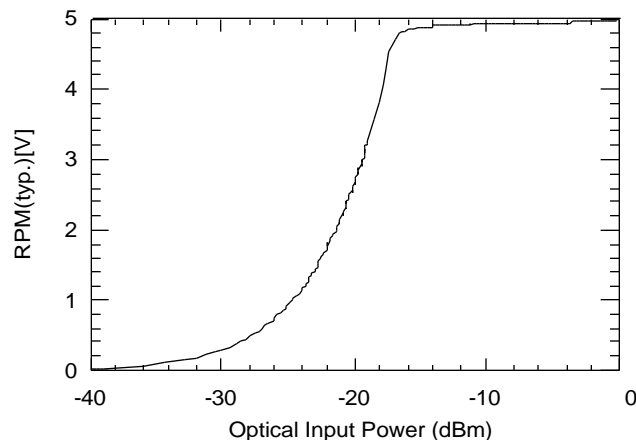

Figure 6. Output Power versus the Optical Input Monitor Voltage (typ.)
8. Optical Input Power: -28.0 ~ -8.0dBm 9. Refer to Figure 6.